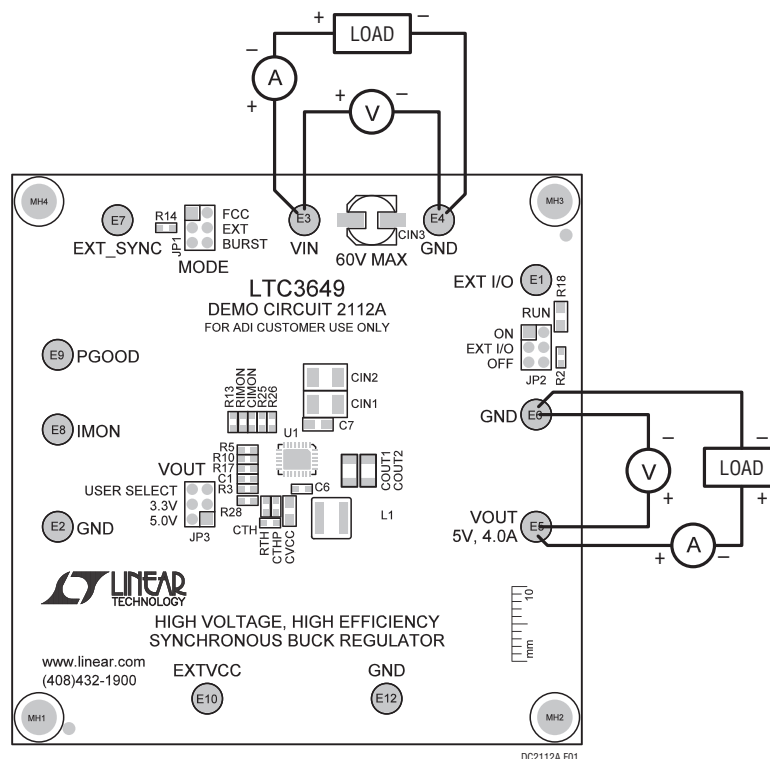

Figure 1. Proper Measurement Equipment Setup
Demonstration circuit 2112A is easy to set up to evaluate the performance of the LTC3649. For proper measurement equipment configuration, set up the circuit according to the diagram in Figure 1. Before proceeding to test, insert shunt into JP2 (RUN) into OFF position, which connects the RUN pin to ground (GND), and thus, shutdown the output. Set jumper JP1 (MODE) into FCC (Forced Counties Conduction Mode) position. Set jumper JP3 (V_{OUT}) into 5.0V position.
1. With the DC2112A set up according to the proper measurement and equipment in Figure 1, apply 12V at V_{IN} . Measure V_{OUT} ; it should read 0V. If desired, one can measure the shutdown supply current at this point. The supply current will be approximately 14 μ A, or less, in shutdown.